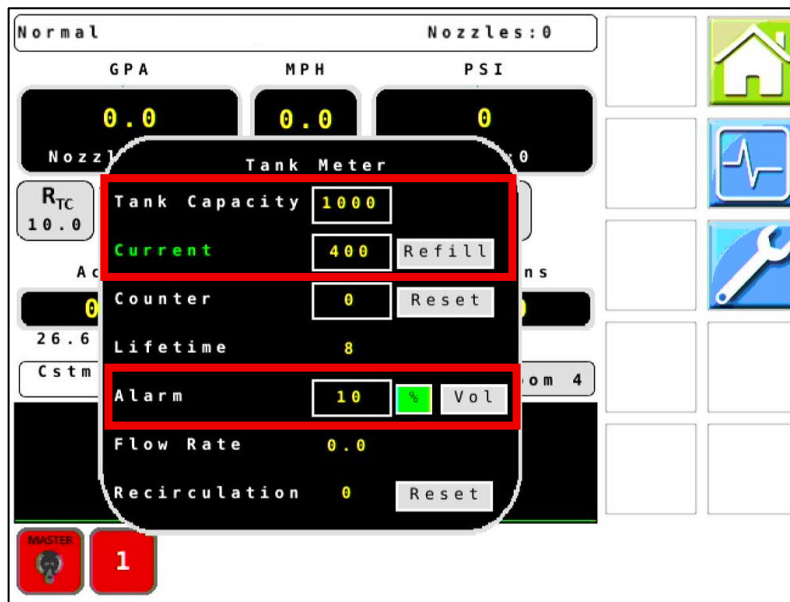

Figure 26 – Tank Meter Popup
45. **Figure 26:** Enter the **Tank Capacity**, **Current Volume** in the tank, and the **Alarm** threshold for alerting when volume is running low if desired.